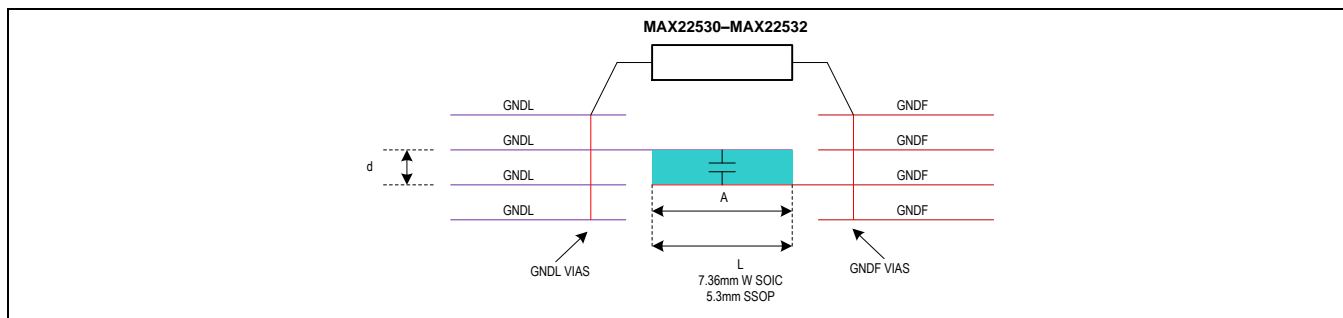
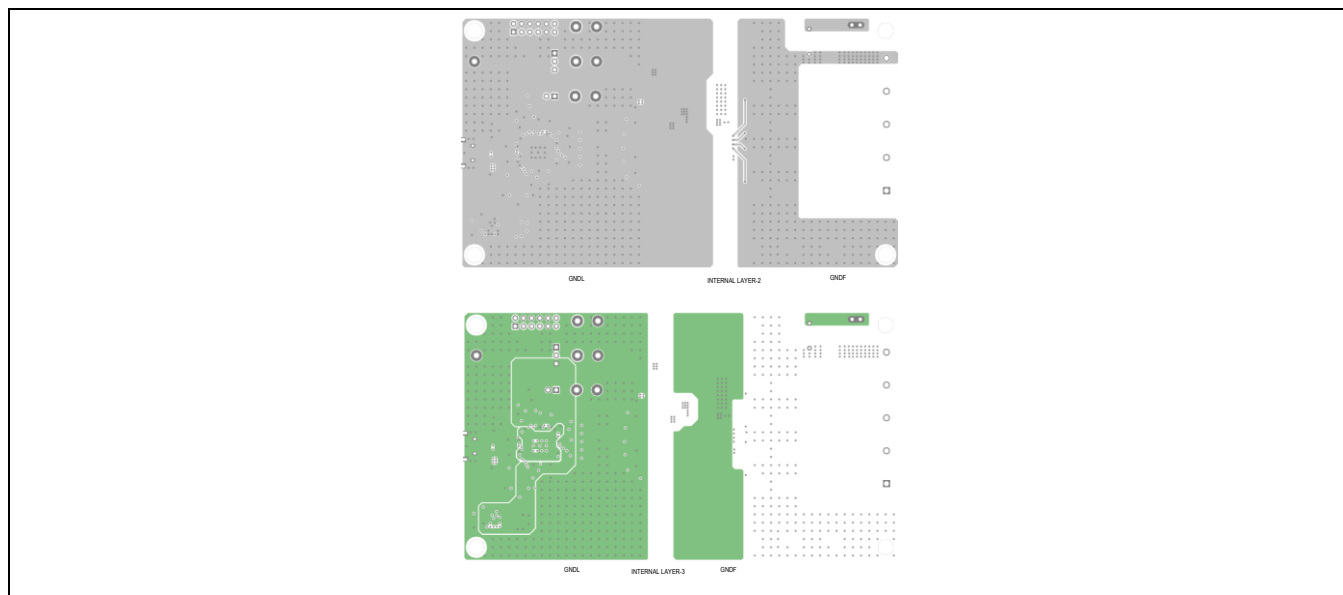

Figure 5. Stitching Capacitance Example on a 4-Layer PCB
Figure 6. Stitching Capacitance on Internal Layers
- Extend the GNDF and GNDL planes on two adjacent layers so they overlap each other; thus, creating a stitching capacitance between GNDF and GNDF. See Figure 5 and Figure 6. Calculate the stitching capacitance value by using the following equation, where A is the overlapping area between the GNDL and GNDF planes.